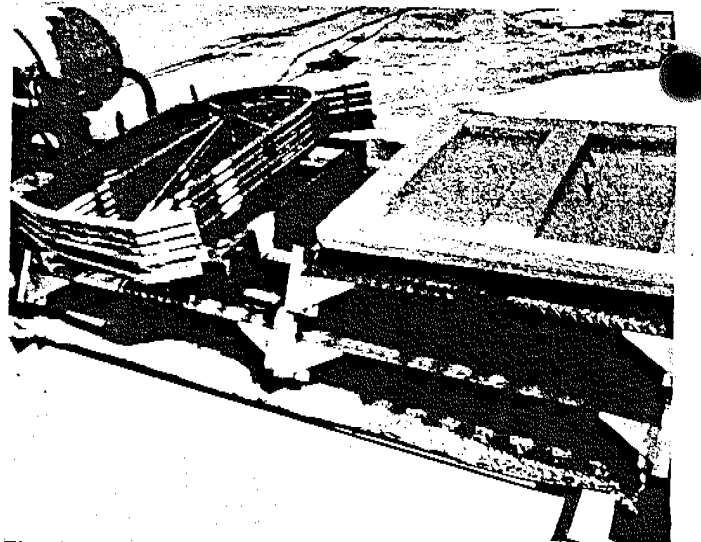

Fig. 26
- a. Unload ticket booth bottom (a) from storage on the steps, which are located on the trailer frame in front of the tower. (Fig. 26) Store it with the rest of the ticket booth until ready to assemble.
- b. Remove the handrails and the handrail loading rack (b) from the other steps. (Fig. 26)